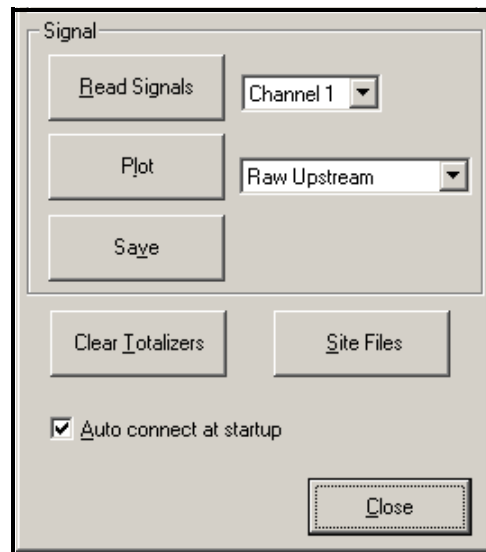

Figure 2-6: Active Signal Options
- To read a signal from the meter, click on the [Read Signals] button. (If the meter is a multi-channel instrument, open the Channel drop-down menu and click on the desired channel.) After a moment, the *Properties* window appears similar to Figure 2-6 below.